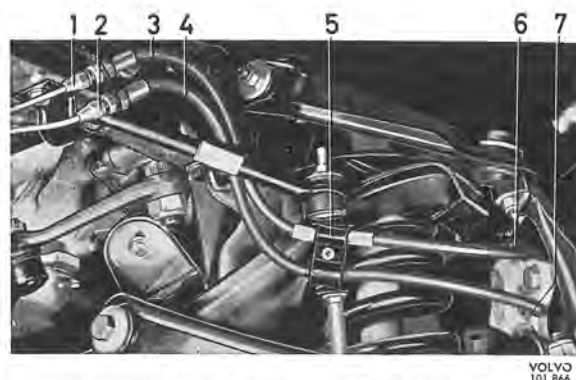

Fig. 5-19. Installing front brake hoses
3. Remove the clip (5, Fig. 5-19). Disconnect the connection (2) and the lower hose (4) from the bracket. Place the protective casing on the brake lines to prevent unnecessary leakage. Disconnect the connection (6) for the upper hose from the brake.
2. Fit the hoses and their connection as well as the guide clip as shown in Fig. 5-19. It is important that the hoses are fitted in the correct way, that is, without being tensioned and with the linkage arms unloaded. Remove the plug for the vent-hole in the brake fluid container cover.